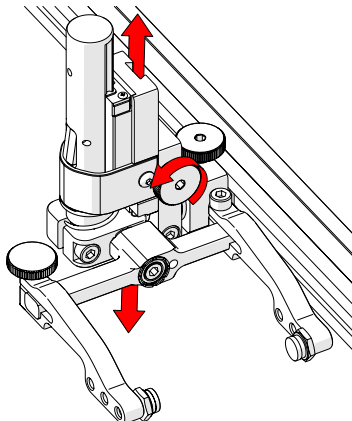

Fig. 113 - Vertical adjustment
2. The vertical adjustment knob allows the vertical probe holder height adjustment (Fig. 113).